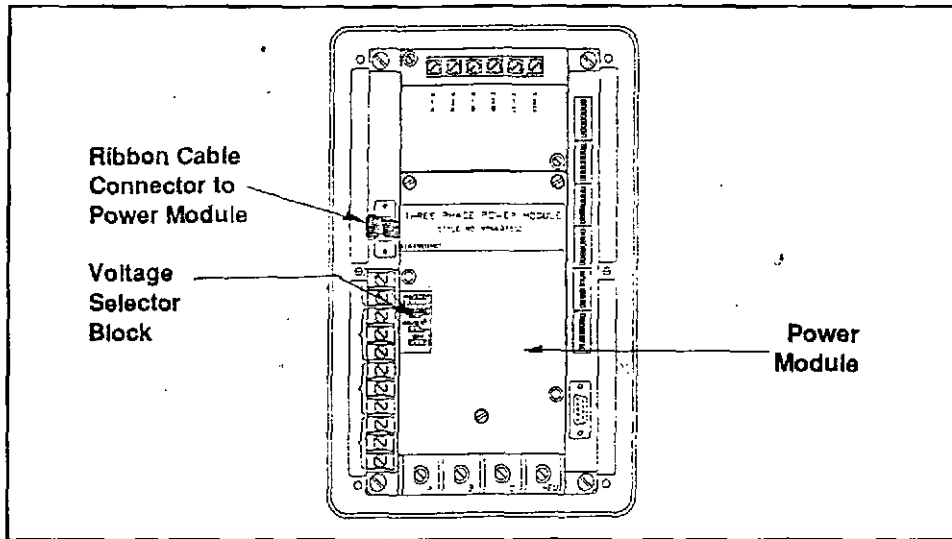

Figure 4.3 — Voltage Selector Jumper
**4.1.4 Voltage Selector Jumper** — It is necessary to match the placement of the Voltage Selector Jumper with the incoming AC line voltage, measured line-to-line. (See Figure 4.3.)
These ranges are indicated on the Power Module, as shown in Figure 4.3. Consult the wiring plan drawings made up by the user or OEM to determine the intended line voltage. Change the Selector Jumper to the Line Voltage when not using potential transformers. When using potential transformers with a 120 volt (or 110 volt) secondary, the Selector Jumper should be positioned for 96-154 volt range.